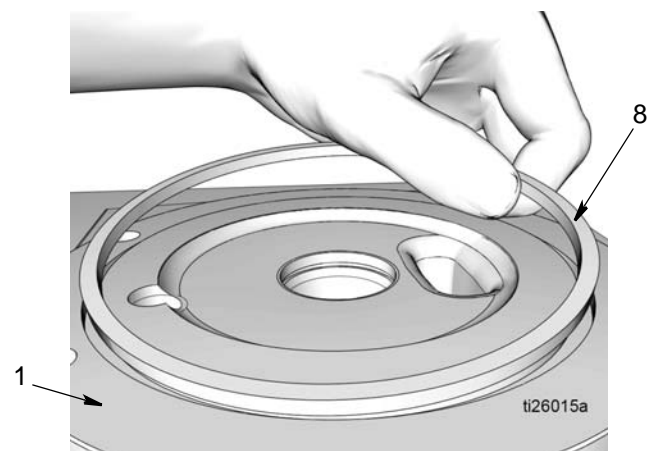

FIG. 29
21. Remove square o-ring (8) from the pump base (1) (FIG. 29). Dispose of o-ring according to all regulations for proper disposal.